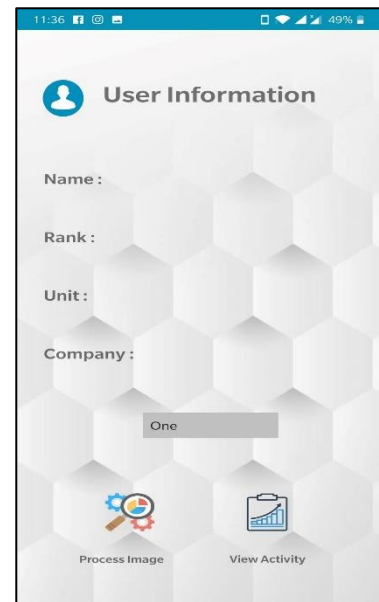

Figure 2.6 Android User Profile
- Getting logged into the system the firer can see his profile (Figure 2.6).